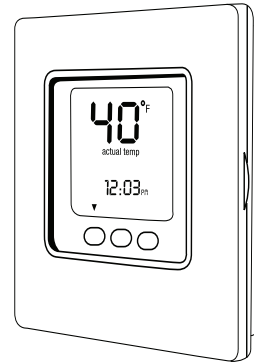

Fig. 16 – Lowest Temperature Setting
1. Set your room thermostat to the lowest temperature setting and set the “MODE” to “OFF” (see Fig. 16).